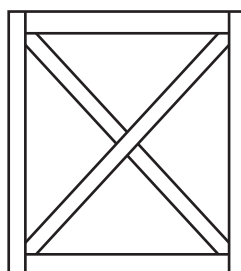

Fig. 3.1
- 3 Fig. 3.1 shows a wooden structure.